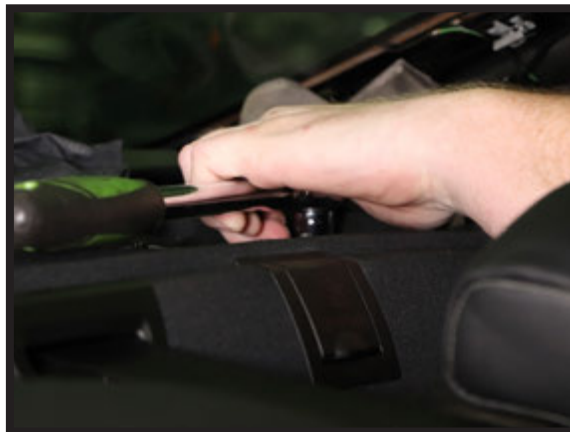

FIGURE 39
12. TIGHTEN THE THREE (3) TOP NUTS. TIGHTEN TO MANUFACTURER'S SPECIFICATIONS. (FIGURE 39)